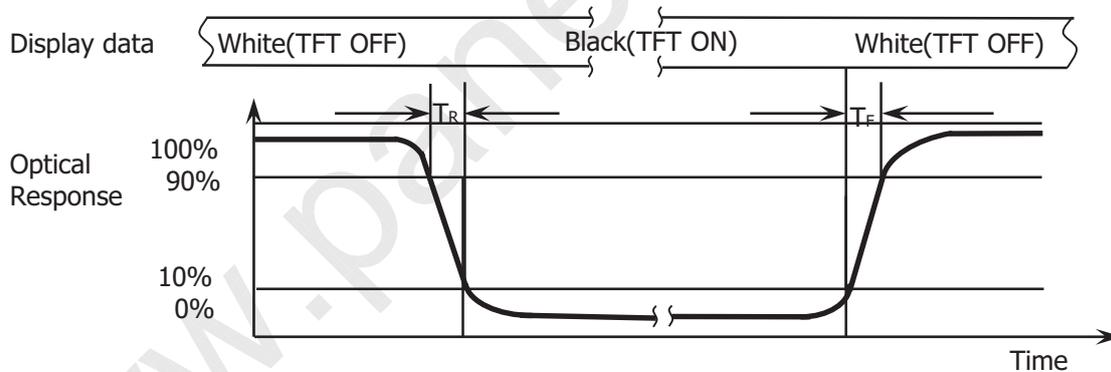

Figure 10. Response Time Testing
- The electro-optical response time measurements shall be made as Figure 10 by switching the "data" input signal ON and OFF. The times needed for the luminance to change from 10% to 90% is T_r , and 90% to 10% is T_f .
The electro-optical response time measurements shall be made as shown in Figure 10 by switching the “data” input signal ON and OFF. Tr: The luminance to change from 10% to 90% ,Tf: The luminance to change from 90% to 10% .